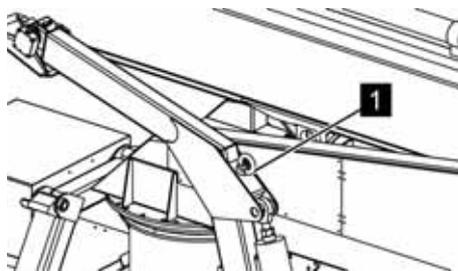

Fig. 38: Attachment point outriggers
3. ➔ Attach belts or chains with shackles to all four attachment points (Fig. 38/1) of the outriggers.